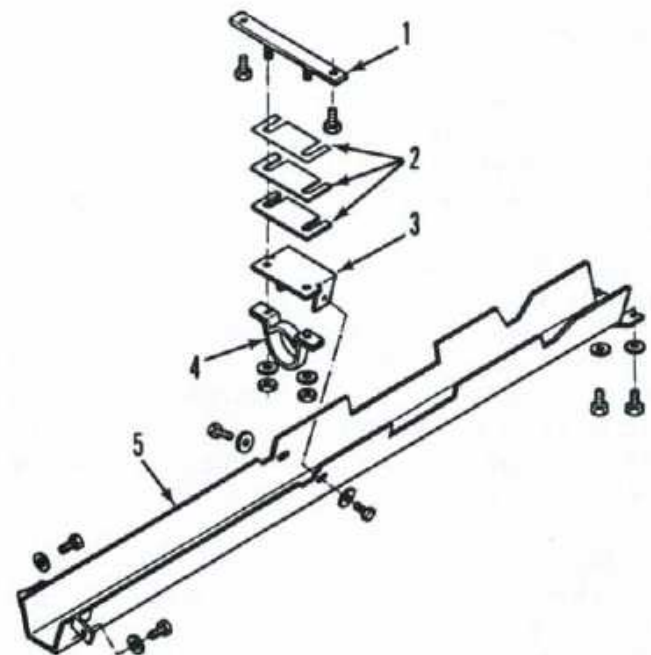

Fig. 28—View of front drive shaft shield and relative components.
**16. REMOVE AND REINSTALL.** To remove the front drive shaft (2—Figs. 29 and 31), first remove drive shaft shield as follows: Block rear wheels securely and apply park brake. Refer to Fig. 28 and remove shield center bolts. Loosen shield rear bolts and place a support under shield (5). Remove shield front bolts, then remove the shield.
Remove front coupler cap screws (4—Fig. 29 and 31) and move front coupler rearward on drive shaft (2). Remove rear coupler cap screws (4) and pry rear coupler (5) forward on drive shaft. Support drive shaft assembly, remove support bar (1—Fig. 28) bolts and lower assembly from tractor. Remove nuts and washers and separate bearing retainer (4), shield support (3), shims (2) from support bar (1). If bearing (3—Figs. 29 and 31) is loose, noisy or rough, remove coupler (1 or 5) and remove bearing (3) from drive shaft (2). If bearing seat on drive shaft is worn, reverse ends of drive shaft when installing bearing.
When reassembling, install bearing on drive shaft in correct position and install the removed coupler so that bolt holes on both couplers align. Install bearing retainer (4—Fig. 28), shield support (3), shims (1) and support bar (1) on drive shaft bearing (3—Figs. 29 and 31). Do not tighten nuts at this time. Raise drive shaft assembly in place and tighten support bar (1—Fig. 28) bolts. Slide couplers on drive pinion shaft and transfer case output shaft. Align cap screw holes with grooves on shafts. Install coupler cap screws and tighten to a torque of 130 ft.-lbs. (175 N·m). Attach and zero a dial indicator against the bottom of drive shaft near the bearing. Tighten bearing retainer nuts and check drive shaft deflection on the dial indicator. Alignment is correct when a deflection of 0-0.002 inch (0-0.05 mm) is obtained. Change shims as necessary to obtain this deflection. Shims (2) are avail-